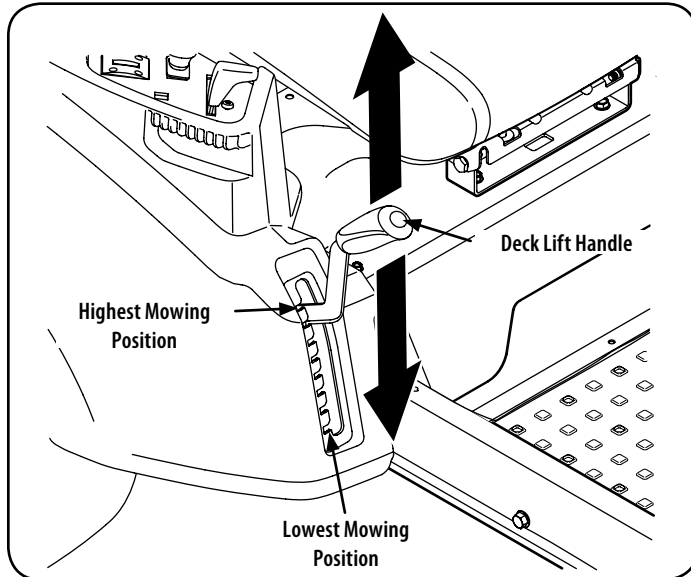

Figure 24
1. Using the deck lift handle, raise the deck to the position that provides the most horizontal run of the belt between the deck idler pulleys and the PTO pulley on the bottom of the engine. See Figure 24.
5. Lower the deck into the lowest position using the deck lift handle. See Figure 24.
1. Place the deck lift handle in the highest mowing position See Figure 24.